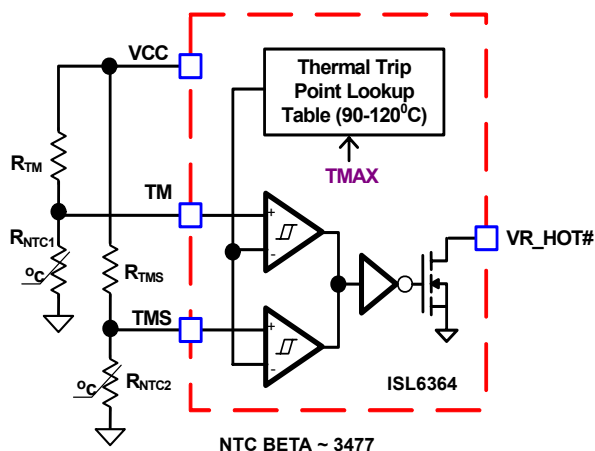
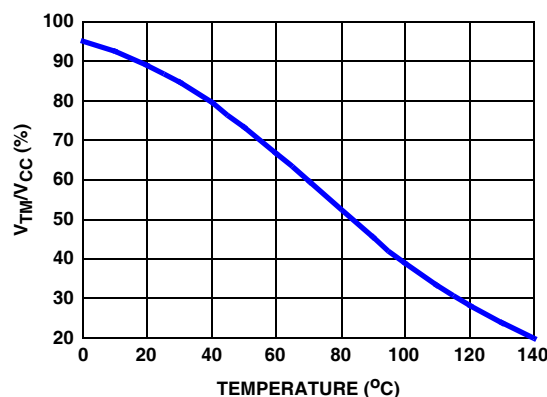

FIGURE 19. BLOCK DIAGRAM OF THERMAL MONITORING FUNCTION
FIGURE 20. THE RATIO OF TM VOLTAGE TO NTC TEMPERATURE WITH RECOMMENDED PARTS
The diagram of thermal monitoring function block is shown in Figure 19. One NTC resistor should be placed close to the respective power stage of the voltage regulator VR0 and VR1 to sense the operational temperature, and one pull-up resistor is needed to form the voltage divider for the TM pin. As the temperature of the power stage increases, the resistance of the NTC will reduce, resulting in the reduced voltage at the TM pin. Figure 20 shows the TM voltage over the temperature for a typical design with a recommended $6.8\text{k}\Omega$ NTC (P/N: NTHS0805N02N6801 from Vishay, $\beta = 3477$) and $1\text{k}\Omega$ resistor R_{TM} . It is recommended to use those resistors for the accurate temperature compensation since the internal thermal digital code is developed based upon these two components. If a different value is used, the temperature coefficient must be close to 3477 and R_{TM} must be scaled accordingly. For instance, say $NTC = 10\text{k}\Omega$ ($\beta = 3477$), then R_{TM} should be $10\text{k}\Omega / 6.8\text{k}\Omega * 1\text{k}\Omega = 1.47\text{k}\Omega$.
There is a comparator with hysteresis to compare the TM pin voltage to the threshold set by the TMAX register for VR_HOT# signal. With TMAX set at $+100^\circ\text{C}$, the VR_HOT# signal is pulled to GND when either TM or TMS voltage is lower than 39.12% of VCC voltage, and is open when both TM and TMS voltages increase to above 40.98% of VCC voltage. The comparator trip point will be programmable by TMAX values. Figure 20 shows the operation of those signals.
Based on the VCC voltage, the ISL6364 converts the TM pin voltage to a 6-bit TM digital signal for temperature compensation. With the non-linear A/D converter of ISL6364, the TM digital signal is linearly proportional to the NTC temperature. For accurate temperature compensation, the ratio of the TM voltage to the NTC temperature of the practical design should be similar to that in Figure 20.
When a different NTC type or different voltage divider is used for the TM function, the TCOMP voltage can also be used to compensate for the difference between the recommended TM voltage curve in Figure 20 and that of the actual design. If the same type NTC ($\beta = 3477$) but different value is used, the pull-up resistor needs to be scaled as shown in Equation 22:
1. Properly choose the voltage divider for the TM pin to match the TM voltage vs temperature curve with the recommended curve in Figure 20.